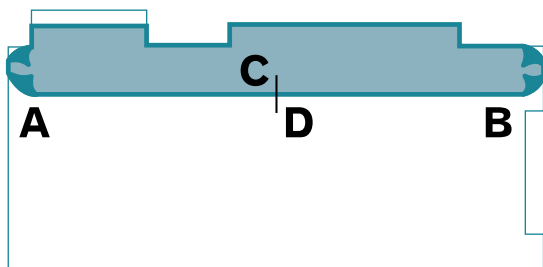

Figure 3 Marking the position
- > When satisfied that the fit on the first edge is correct, use a pencil to trace the opposite edge onto the subfloor (line A-B in Fig 3).
- > In the centre of the room, draw a line on both the sheet and subfloor square to the main axis of the sheet (line C-D in Fig 3).